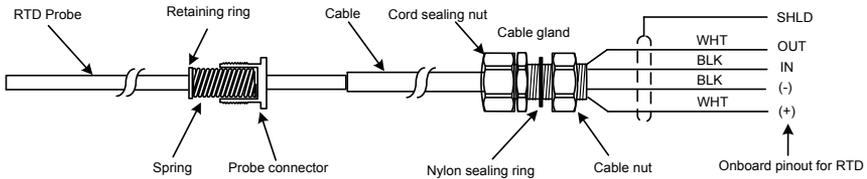
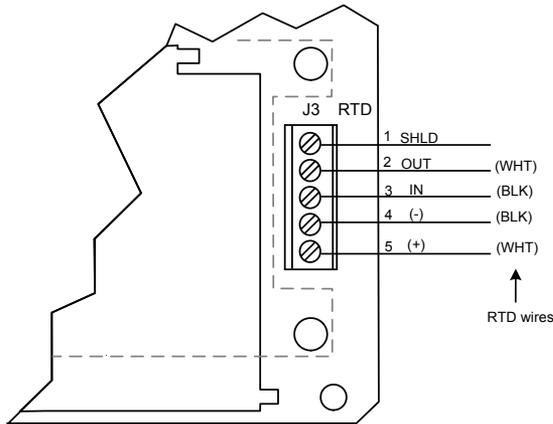

Figure 6: RTD probe connector
Figure 7: RTD sensor wiring to μ FLO^{G5} electronic board
2. Using snap-ring pliers, adjust the retaining ring below the spring on the probe (Figure 6). Probe depth should be set so that it is spring-loaded against the bottom of the thermowell.
6. Wire the RTD sensor cable to the J3 terminal block using the wires identified in Figure 6, *RTD probe connector*, and the pinouts identified in Figure 7.
- d. Loosen the screws for pins 1 through 5, insert the corresponding wires as identified in Figure 7, and gently retighten.